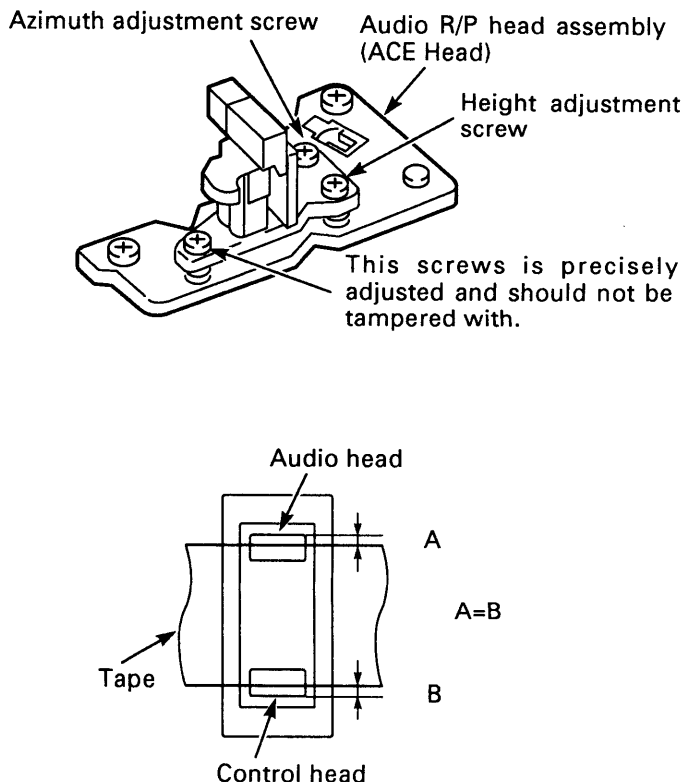

Fig.4-3-5
(1) Azimuth adjustment (See Fig.4-3-5)